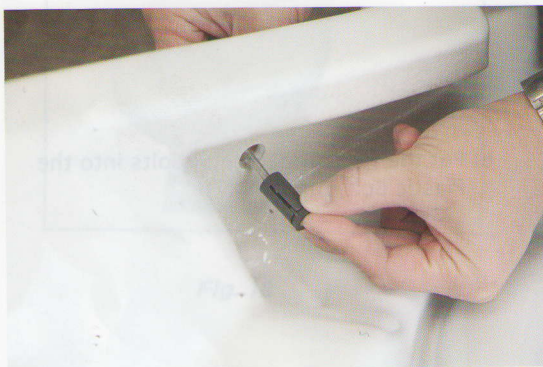

Fig. 10
11) Insert and turn screw into Fastener and Plastic Bolt Cap as you hold them from below (Fig.10). The Fastener bottom will open up as your tighten the screw (Fig.11). Do not over tighten the Screw until Step 13.